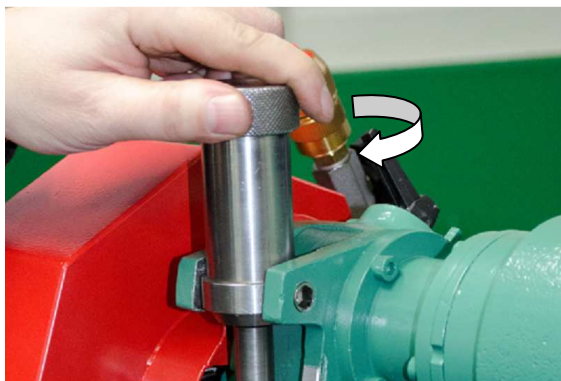

Fig. 8.1
8. Hold the feeding pipe tight in one hand, while adjusting with the other hand the cutting depth with the adjustment device. (see fig. 8.1).